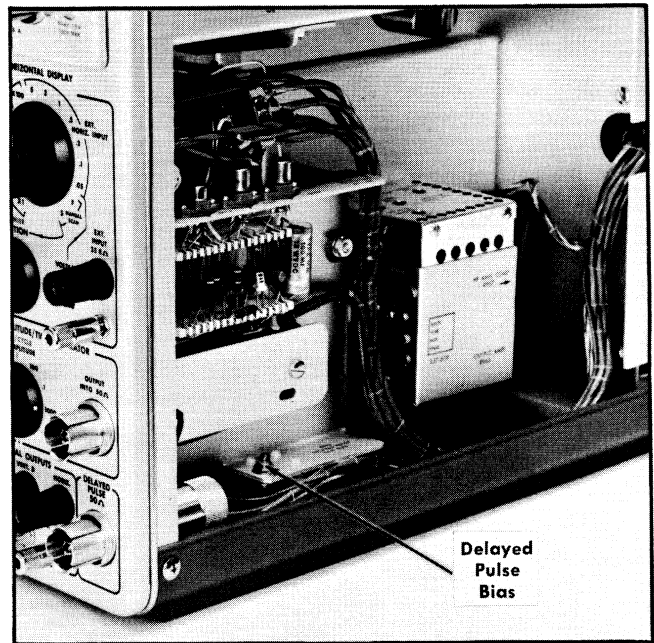

Fig. 5-7. Location of oscilloscope Delayed Pulse Bias adjustment.
- f. **Adjust** the oscilloscope Delayed Pulse Bias control (see Fig. 5-7) if the display is not correct.